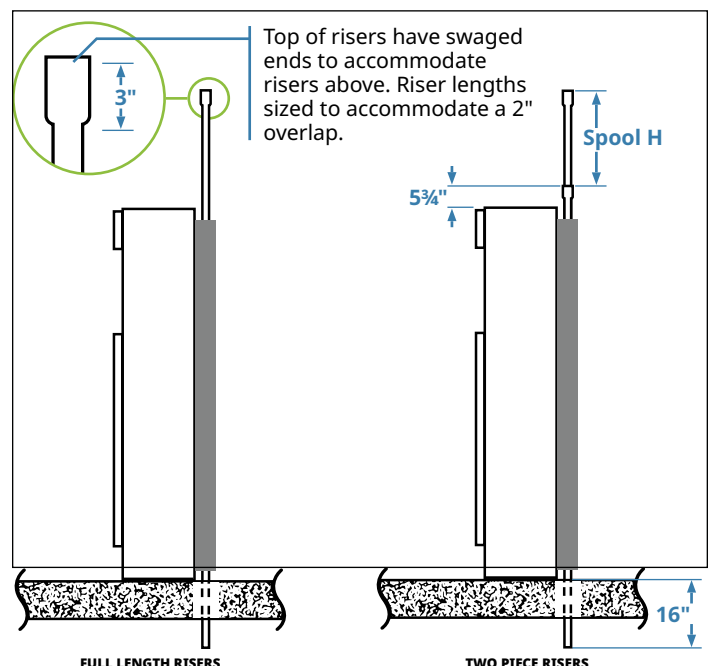
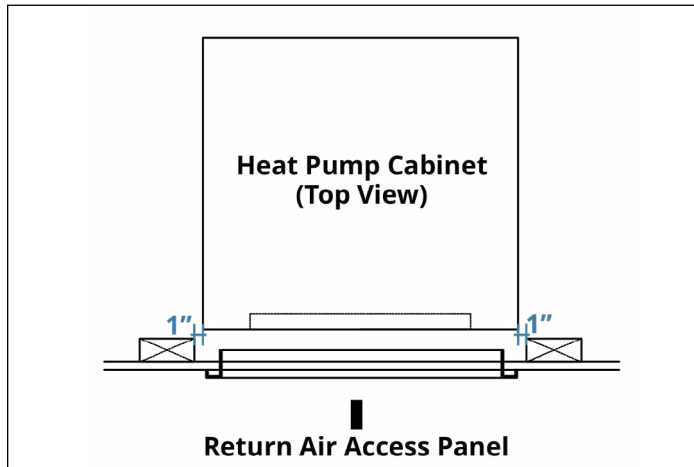

Figure 1
Figure 2
4. Check risers end 16" (406 mm) from the bottom of the cabinet. See **Figure 1**. If not; loosen cable tie, adjust the risers as needed, and re-tighten the straps. Ensure valve connections are centered to the height of the drywall opening. See **Figure 2**.
Note: Top of risers have swaged ends to accommodate a 2" (50 mm) overlap between floors. See *Figure 1*.
6. Ensure cabinet is centered to drywall opening with 1" (25 mm) of space to either side. See *Figure 2*.
16. Ensure cabinet is centered to drywall opening with 1" (25 mm) of space to either side. See *Figure 2*.
3. Center risers in slot. Ensure risers will end 16" (406 mm) from the bottom of the cabinet. Note: Top of risers have swaged ends to accommodate a 2" (50 mm) overlap between floors. See **Figure 1**.